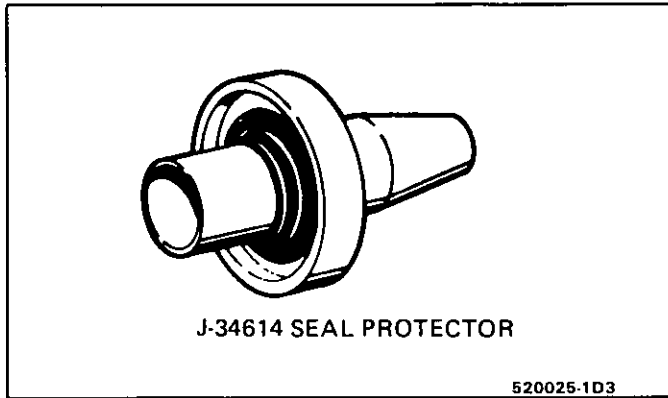

Fig. 27 Lip Seal Installed on Seal Protector
3. Attach the seal to the seal remover and installer J-23128-A and dip the seal in clean 525 viscosity refrigerant oil to coat the seal. Install seal protector J-34614 in the seal, place over shaft and push seal in place with a rotary motion (Fig. 27).